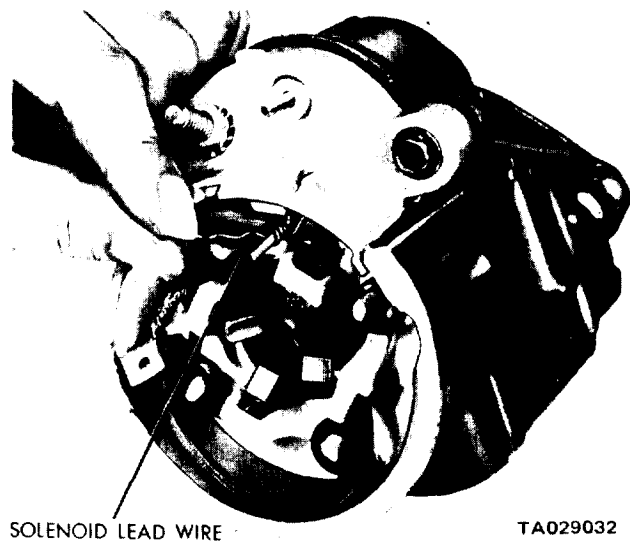

Figure 15-5. Unwinding Solenoid Lead Wire.
- f. Unwind the solenoid lead wire from the brush terminal to disconnect it (figure 15-5).